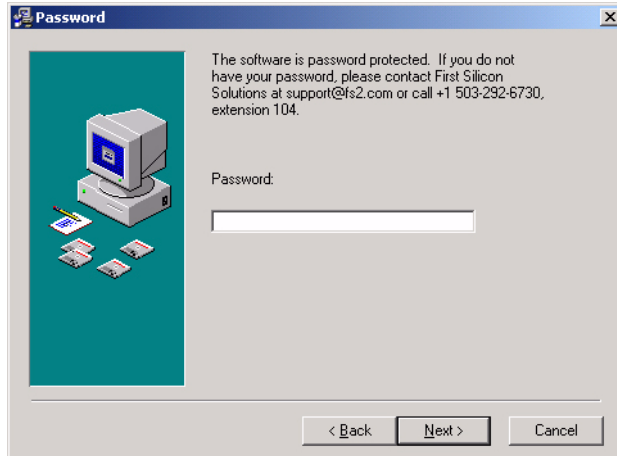

Figure 5-1. FS2 Installation Password Dialog
2. When prompted, enter one of the two setup passwords printed on the CD case (Figure 5-1). Use the *With Keil* password if the Keil μ Vision2 has previously been installed, or the *Without Keil* password if the Keil software is not being used.